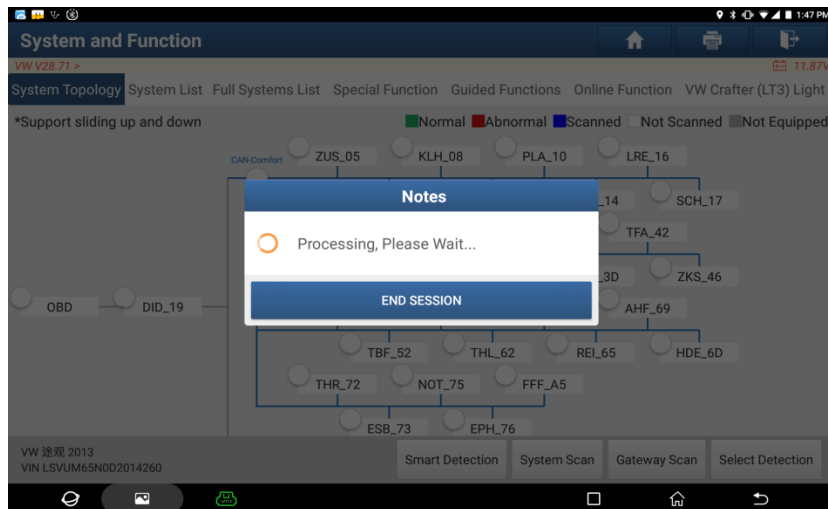

Figure 2
3.2.1 Enter the software, select Volkswagen, and click [Special Function], as shown in Figure 2.